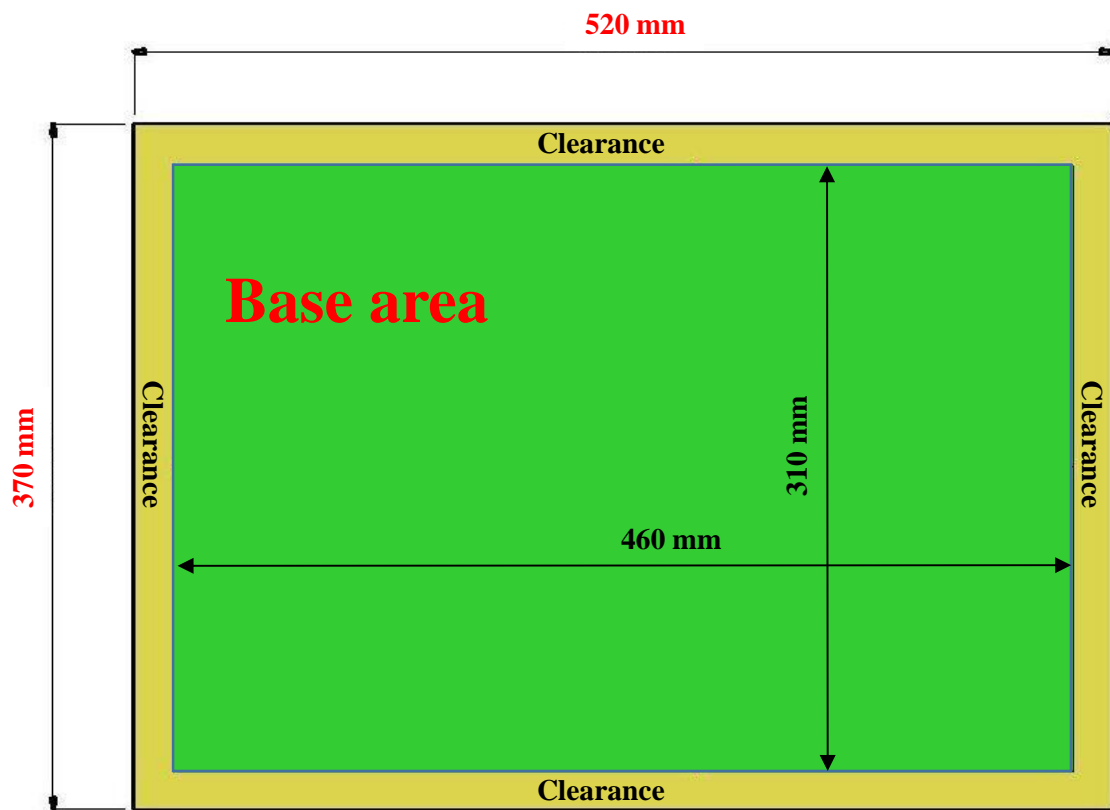

Figure 1: Top view of the MDF base board
- The model building must be constructed on a wooden board with a dimension of 370 mm (W) \times 520 mm (L) \times 6 mm (H), while the base area of the model building is limited to 310 mm (W) \times 460 mm (L). IDEERS will provide a medium-density fiberboard (MDF) as the base wooden board. The baseboard should have a 30-mm clearance left at the four edges so that the model building can be fixed on the shaking table (Figures 1 and 2). The model building can be in any shape, but the fabrication area of the building is restricted to meet the IDEERS requirement.